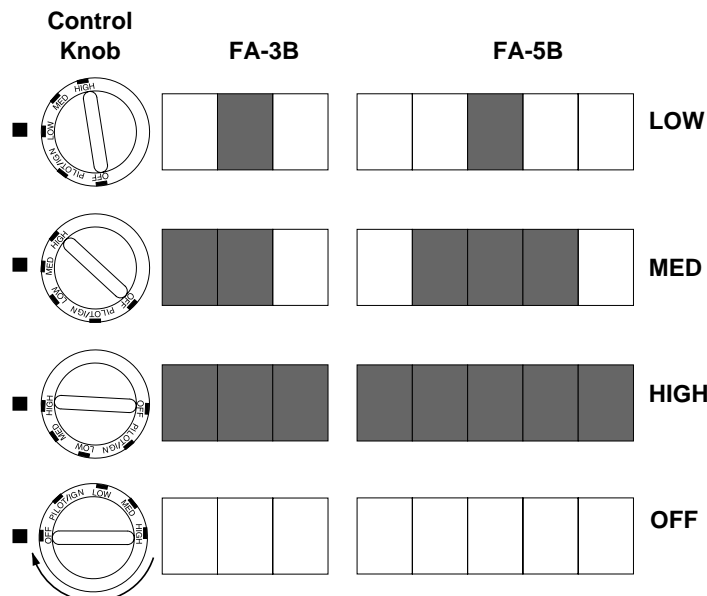

Figure 18 - Burner Patterns
5. Press in and turn control knob counterclockwise to PILOT/IGN position. Press in control knob for five(5) seconds (see Figure 18).
Slightly press in control knob and turn counterclockwise to the LOW, MEDIUM, or HIGH positions (see Figure 18).